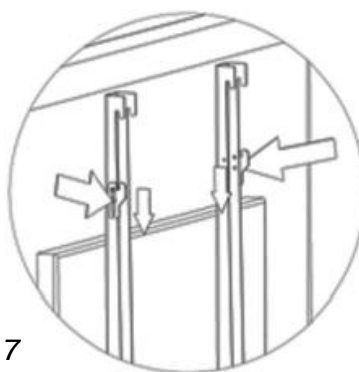

fig. 7
10. Loosen the lower brackets on the vertical beams (fig. 7)